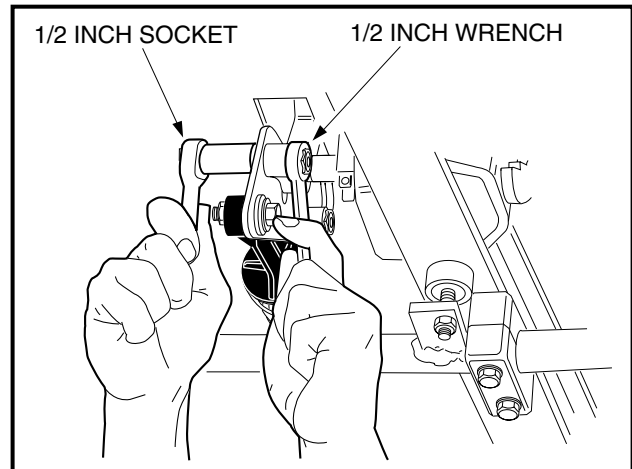
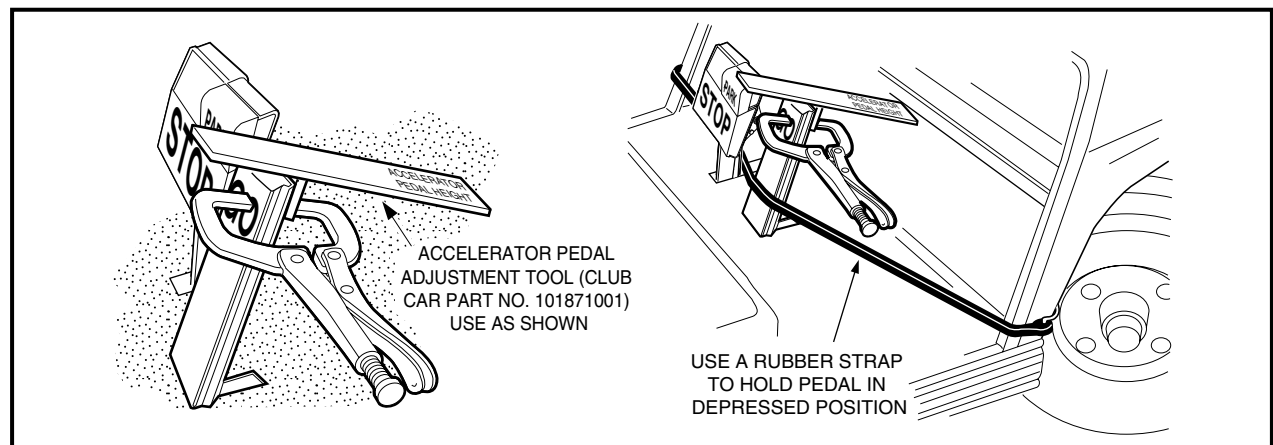

Figure 5-9 Accelerator Pedal Height Adjustment
Figure 5-10 Accelerator Pedal Height Adjustment
- 4.1. Loosen the nut and bolt (**Figure 5-9, Page 5-5**) securing the accelerator pedal to the pivot plate. Clamp the accelerator pedal adjustment tool (Club Car Part No. 1018710-01) to the accelerator pedal, with the end marked **accelerator pedal height** closest to the floorboard, next depress the accelerator pedal until the end of the tool rests against the floorboard (pedal height should be 5-5/8 inches (14.3 cm)). Use a rubber strap to hold pedal in position against the floorboard and then tighten nut to 26 ft-lb (35.3 N-m) (**Figure 5-10, Page 5-5**).